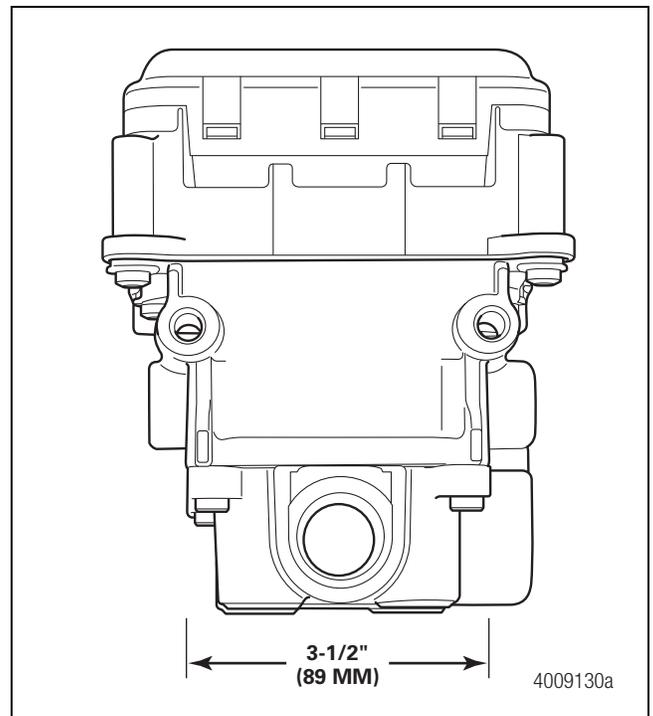

Figure 7
- Drill two 1/2-inch (13 mm) mounting holes. The center-to-center distance between the two holes must be 3-1/2-inches (89 mm) and mount directly to a rigid structure. Figure 7.OR